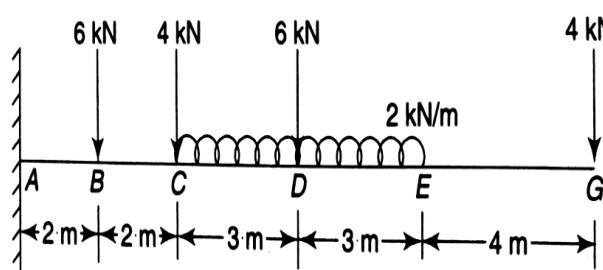

Fig.2
- ii. A cantilever of 4m span carries loads of 6kN , 4kN, 6kN and 4kN at 2m, 4m,7m and 4m respectively from the fixed end. It also has a uniform distributed load of 2kN/m as shown in fig. 2. Draw the shear force and bending moment diagrams.